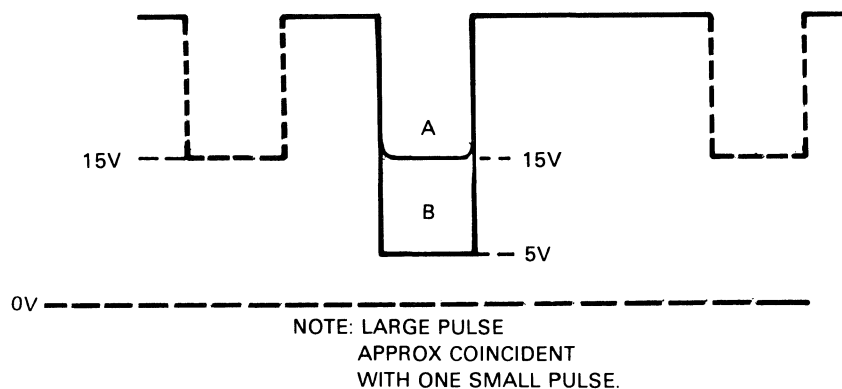

Figure 5-5. Display Adjust Waveform
- f. Adjust oscilloscope for waveform as shown in figure 5-5.